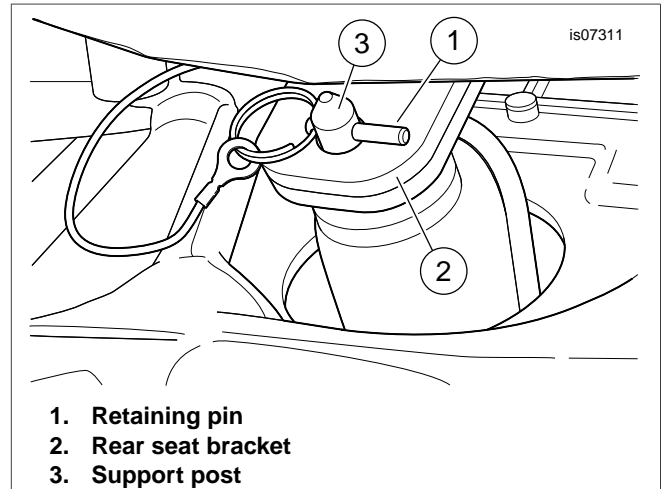

Figure 2. Seat Retaining Pin
2. See Figure 2. Standing on the left side of the motorcycle, press down on the rear of the seat and pull the pin (1) from the post (3) on the top plate.